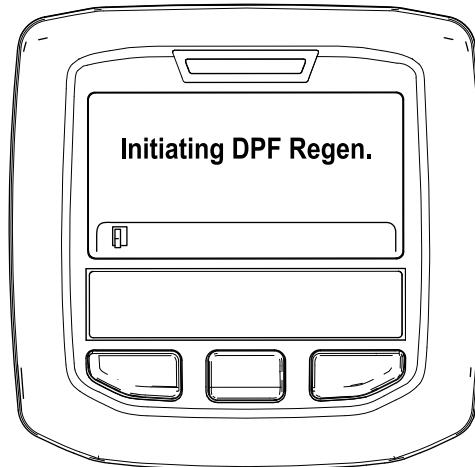

Figure 44
A. The "Initiating DPF Regen." message displays (Figure 44).